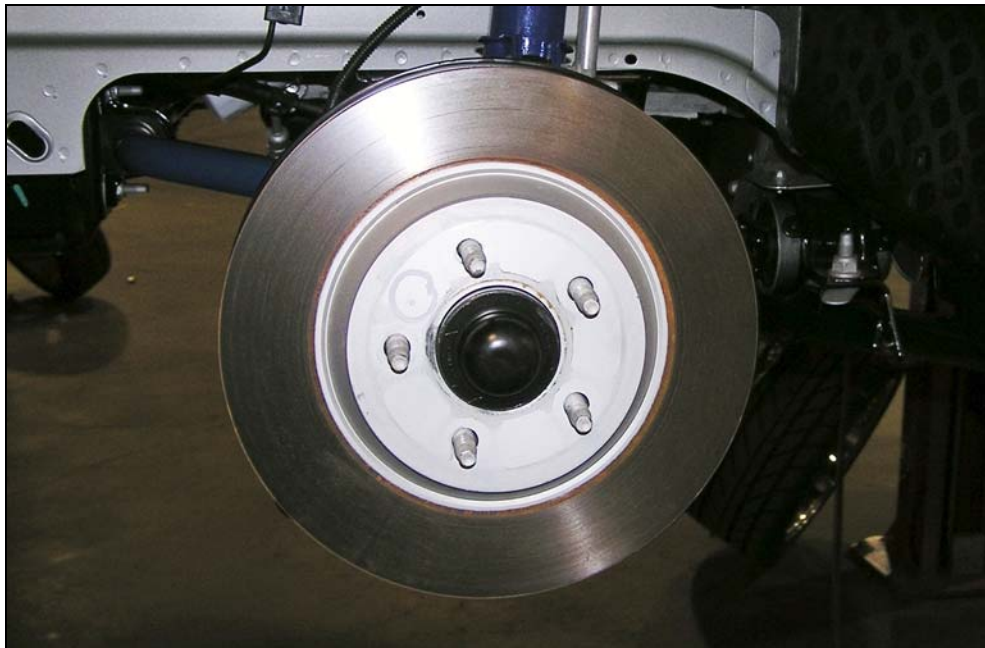

Figure 7
3. Remove the stock rotor. Refer to Figure 7.